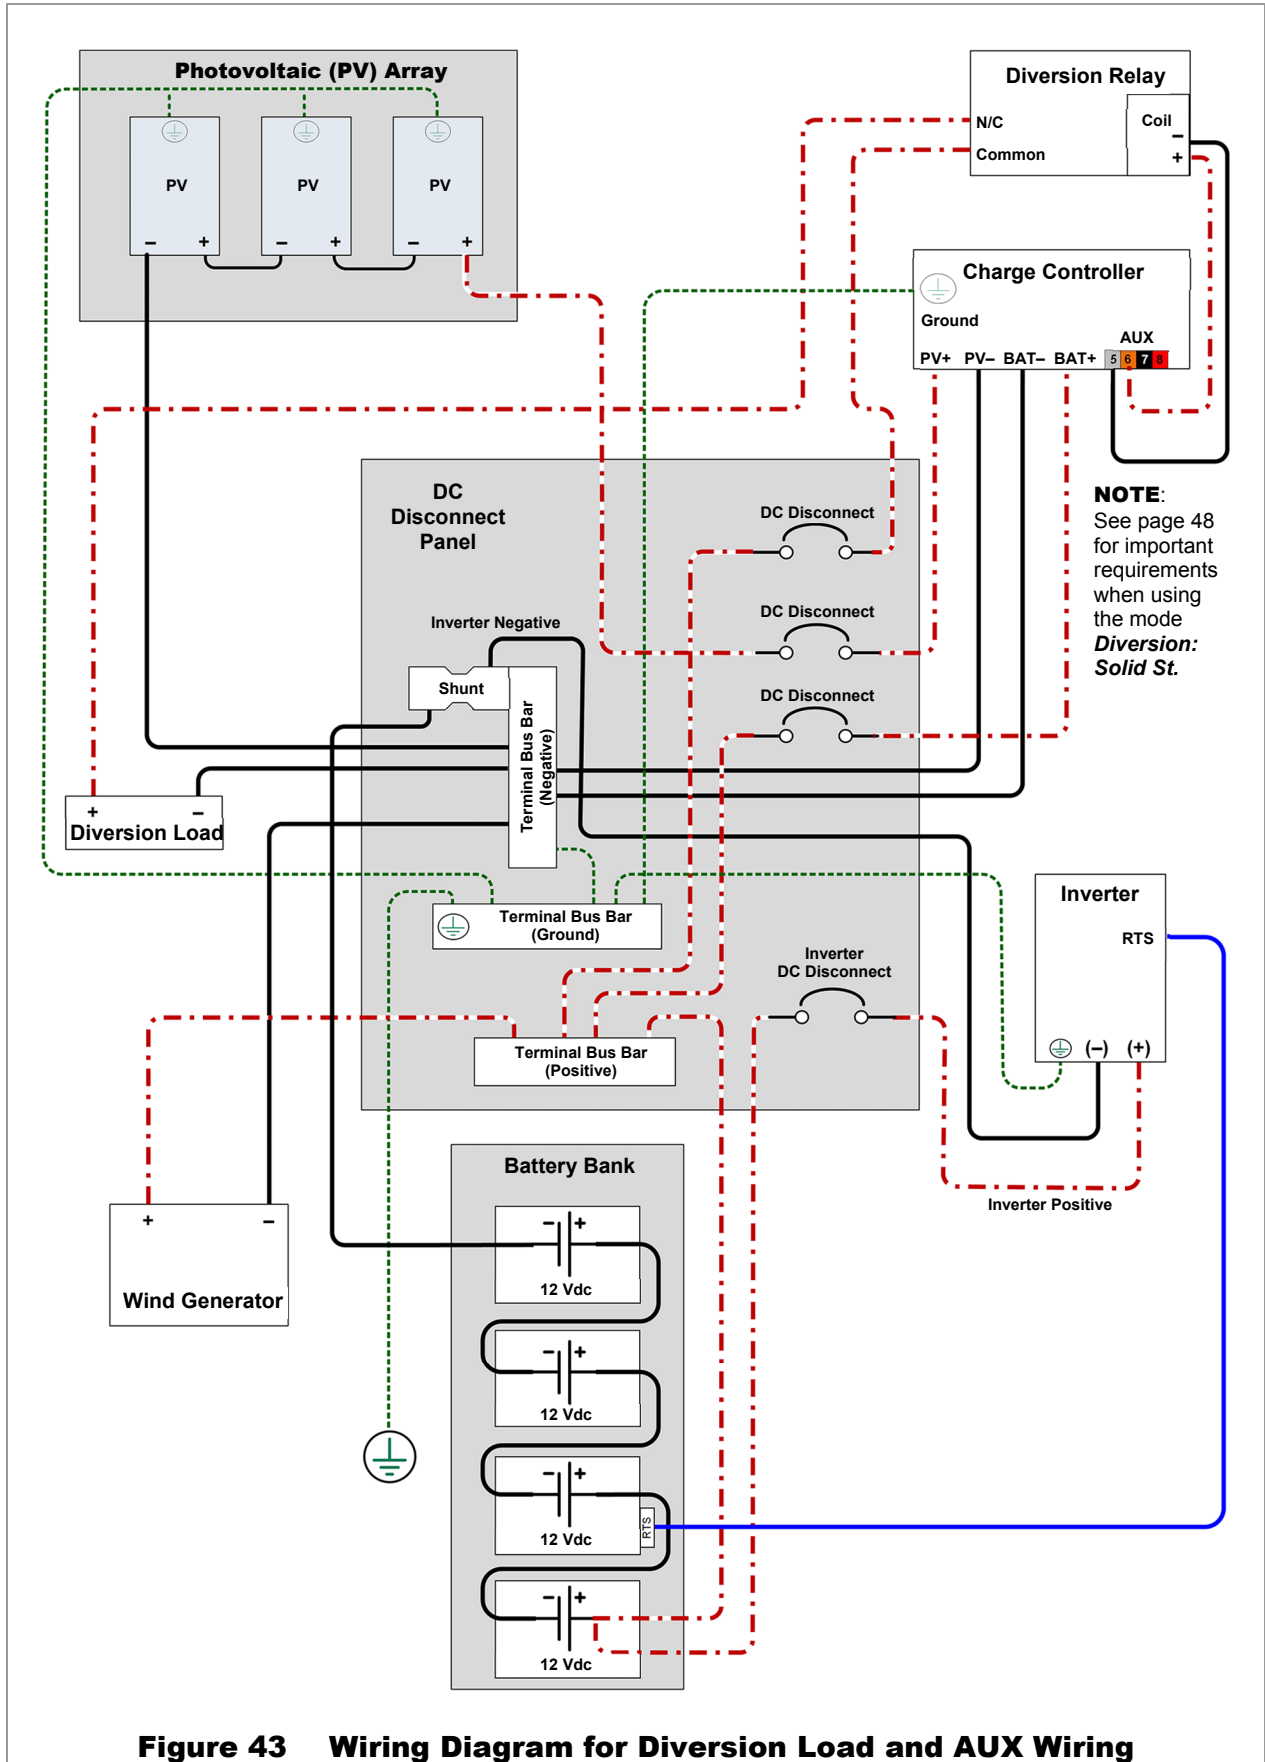

Figure 43 Wiring Diagram for Diversion Load and AUX Wiring
- See Figure 43, page 49, for an auxiliary setup wiring diagram example.